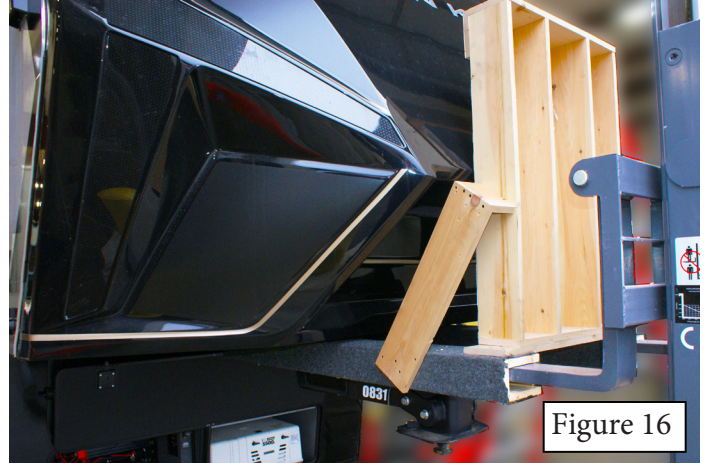

Figure 16
17. Pull the side fascias off by pulling out from the bottom of the fascia first (Figure 16), then pulling down to disengage the biscuit joint where the side fascia meets the top fascia (Figure 17). Note that there are spot applications of CHEM-X adhesive on the backs of the fascia boards, so it may require a prying tool to remove them from the backers. **Where possible, retain original fascia boards for later reuse.**
17. Once the fasteners are removed, remove the slide corners. You may have to pry the corners off the slide box (Figure 16). Note - if they are damaged during removal, replace them (replacements provided in initial parts shipment - P/N 105066).
5. Support the cap with a forklift that is padded to protect the cap (Figure 16).